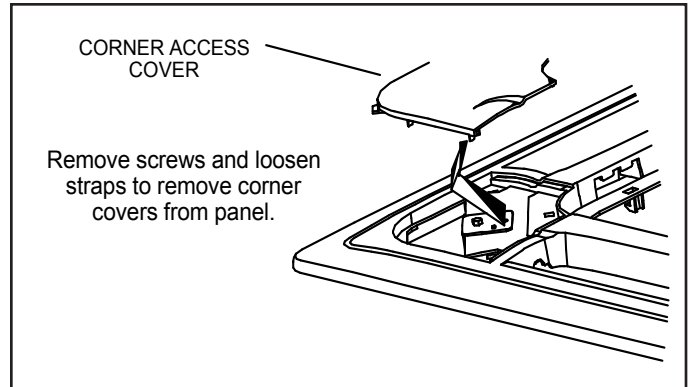

Figure 22. Remove Corner Covers
3. Remove access covers from each corner of the panel. See Figure 22.